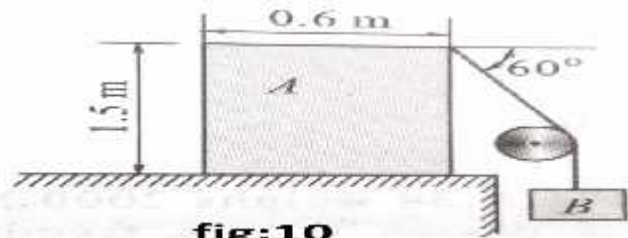

fig:10
10. Block A weighing 200 N is connected to another block B of weight W , by a cord passing over a rough fixed pulley as shown in fig:10. The weight W is slowly increased, Find the value for which motion just impend. Take coefficient of friction for all contact surfaces = 0.2